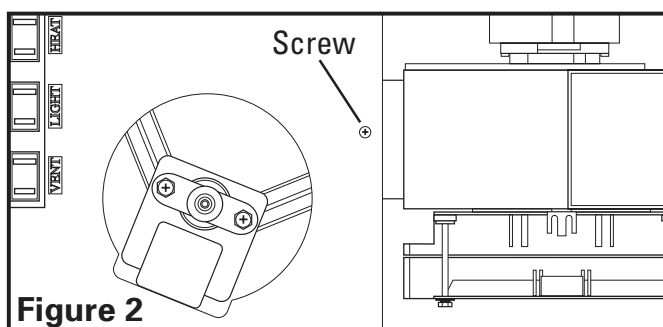

Figure 2
3. Remove the fan's venturi assembly, which is secured in place with one screw through the venturi **(Figure 2)**. Keep the venturi assembly and the grill in the carton until needed so they do not get damaged or lost.